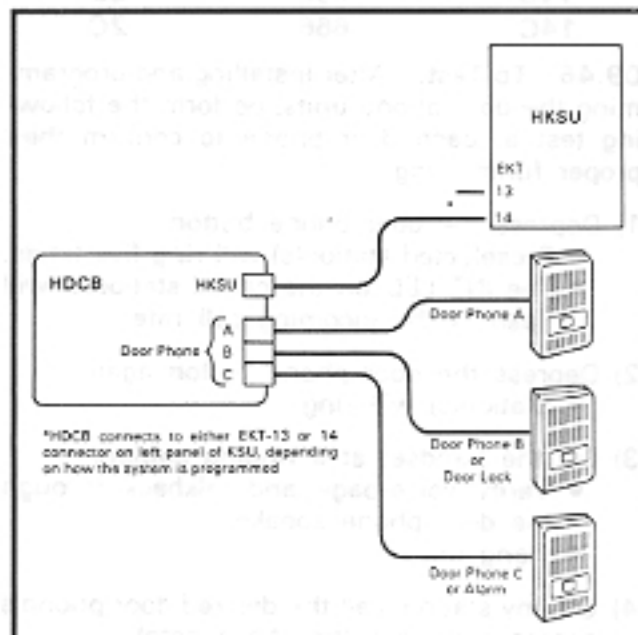

FIGURE 33—HDCB/MDFB CONNECTION
09.44 Cabling: The door phone control unit (HDCB) is connected to the HKSU at EKT 11/13 and/or 12/14 (program-controlled). Each door phone/monitor station (MDFB) is connected to the HDCB via a 2-wire modular connector at the HDCB and a split ring connector at the MDFB using screw terminals 1 and 2 (L1 and L2 are not used). Figure 33 shows the HDCB and MDFB wiring arrangement.